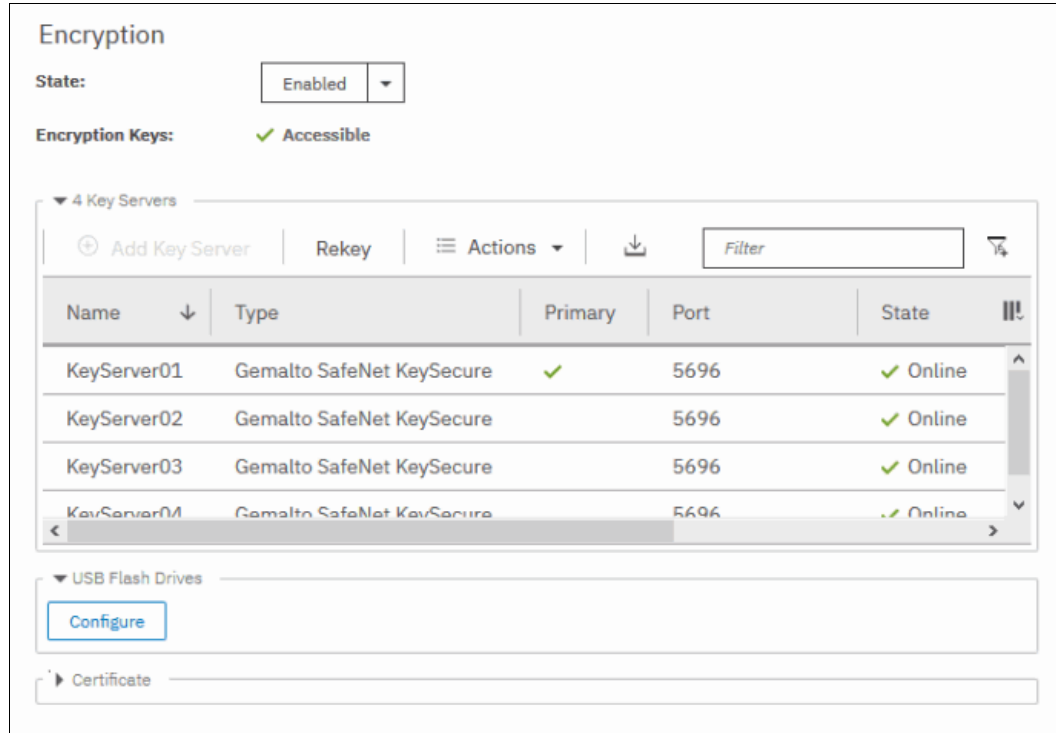

Figure 12-57 IBM FlashSystem encryption that is configured with SafeNet KeySecure
2. Migrate from USB flash drives encryption to another key server type encryption (in this example, Gemalto SafeNet KeySecure) by following the steps that are described in 12.7.1, “Changing from a USB flash drive provider to an encryption key server” on page 778. After completing this step, the other key server type is configured as an encryption provider in IBM Spectrum Virtualize, as shown in Figure 12-57.